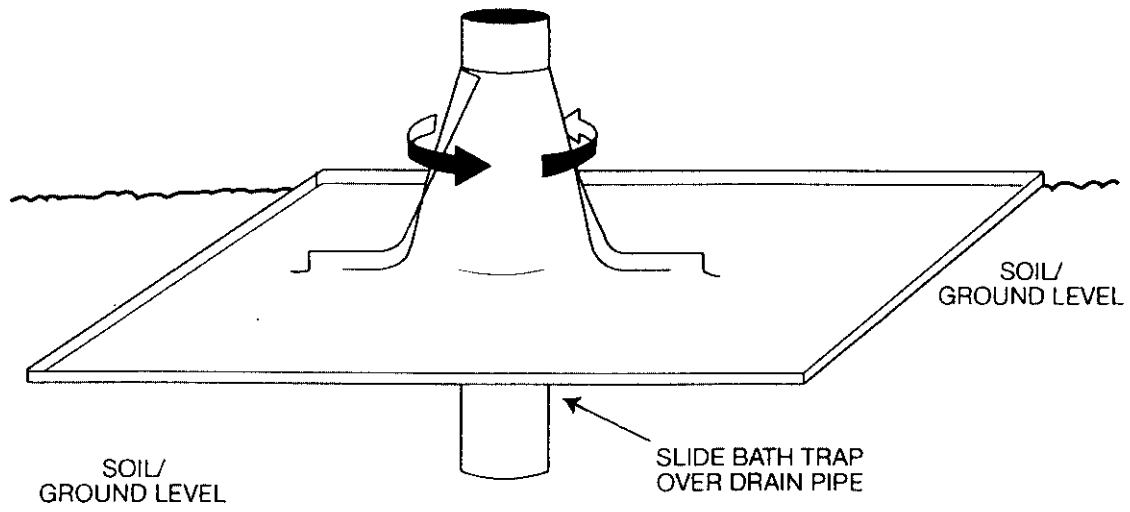

Figure 8
STEP 2. Install Impasse Termite Blocker-Bath Trap placing the conical section of the Termite Blocker-Bath Trap over the utility penetration, cutting the top of the conical section to fit tightly over the pipe. Slide the Impasse Termite Blocker-Bath Trap down to the soil surface. Position the rectangular portion of the Impasse Termite Blocker-Bath Trap so that it will be totally embedded in concrete and no soil surface will be visible after the outer container is later removed. (see Figure 8).